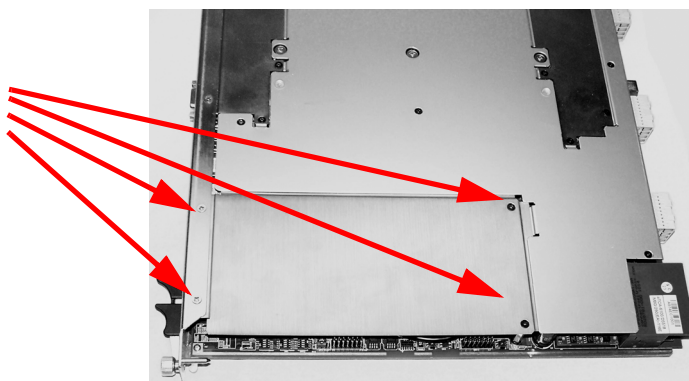

Figure 38 Removing the top-side cover to replace the SSD.
- 3 Position the controller, top side up on the workbench. With a #1 Phillips screwdriver, remove the four screws and panel indicated in Figure 38.